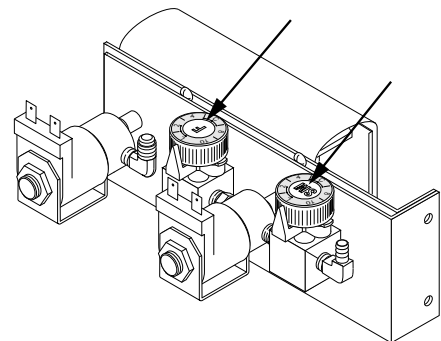

FIG. 3
2. To change the steamed milk adjustment, turn the knob closest to you marked "SM". A lower number means less steam. See Fig. 3
3. To change the frothed milk adjustment, turn the knob farthest from you marked "F". The adjustment is added to the "SM" adjustment, so any change made to "SM" will also change "F". See Fig. 3